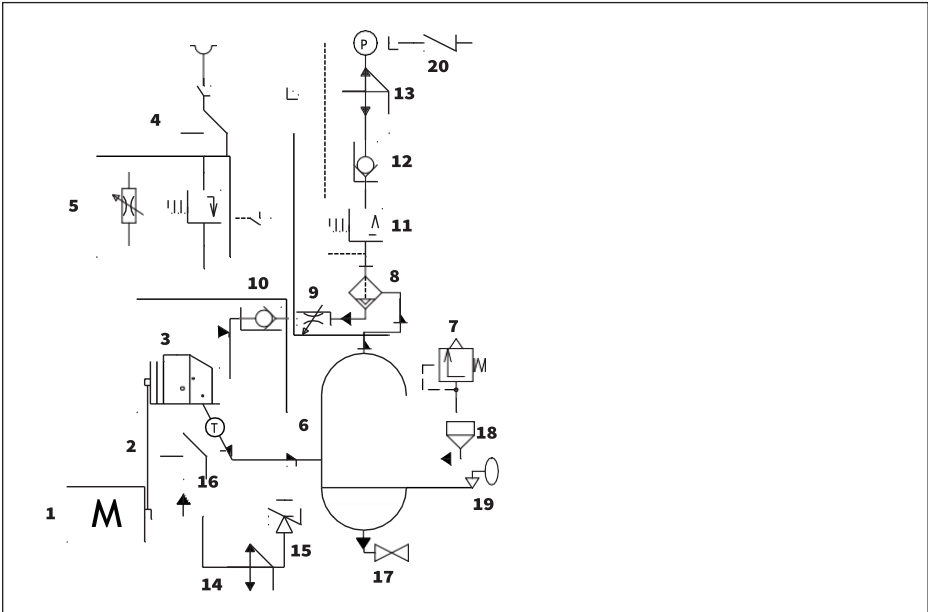
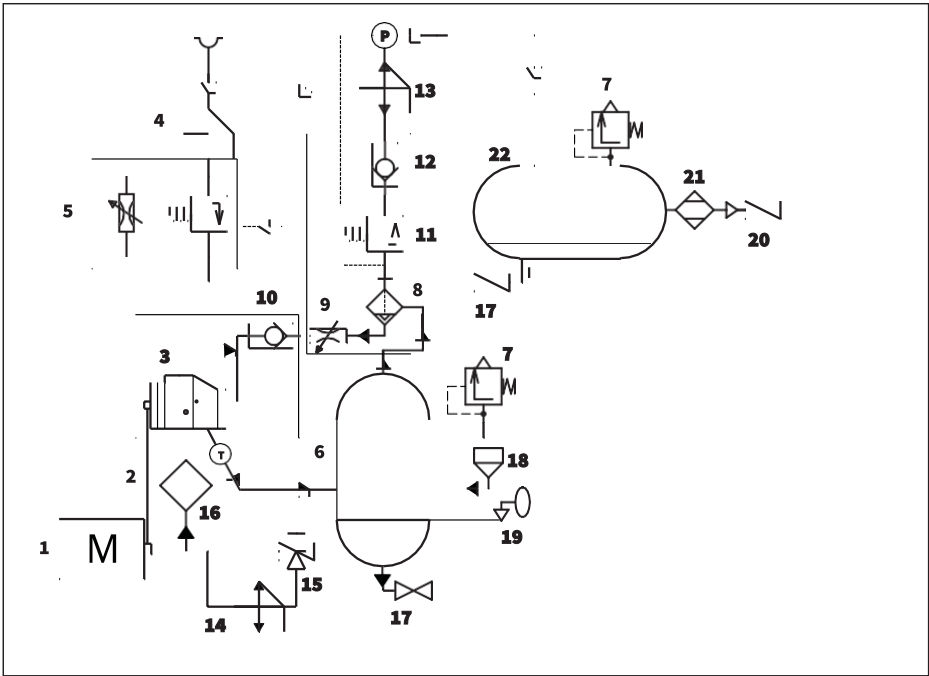

Fig. 2.3.1 Function diagram A07..-A22..
Fig. 2.3.2 Function diagram AR07...-AR22..., ARD07...-ARD22..
2.4 Functional description (see Fig. 2.3.1 and Fig. 2.3.2)